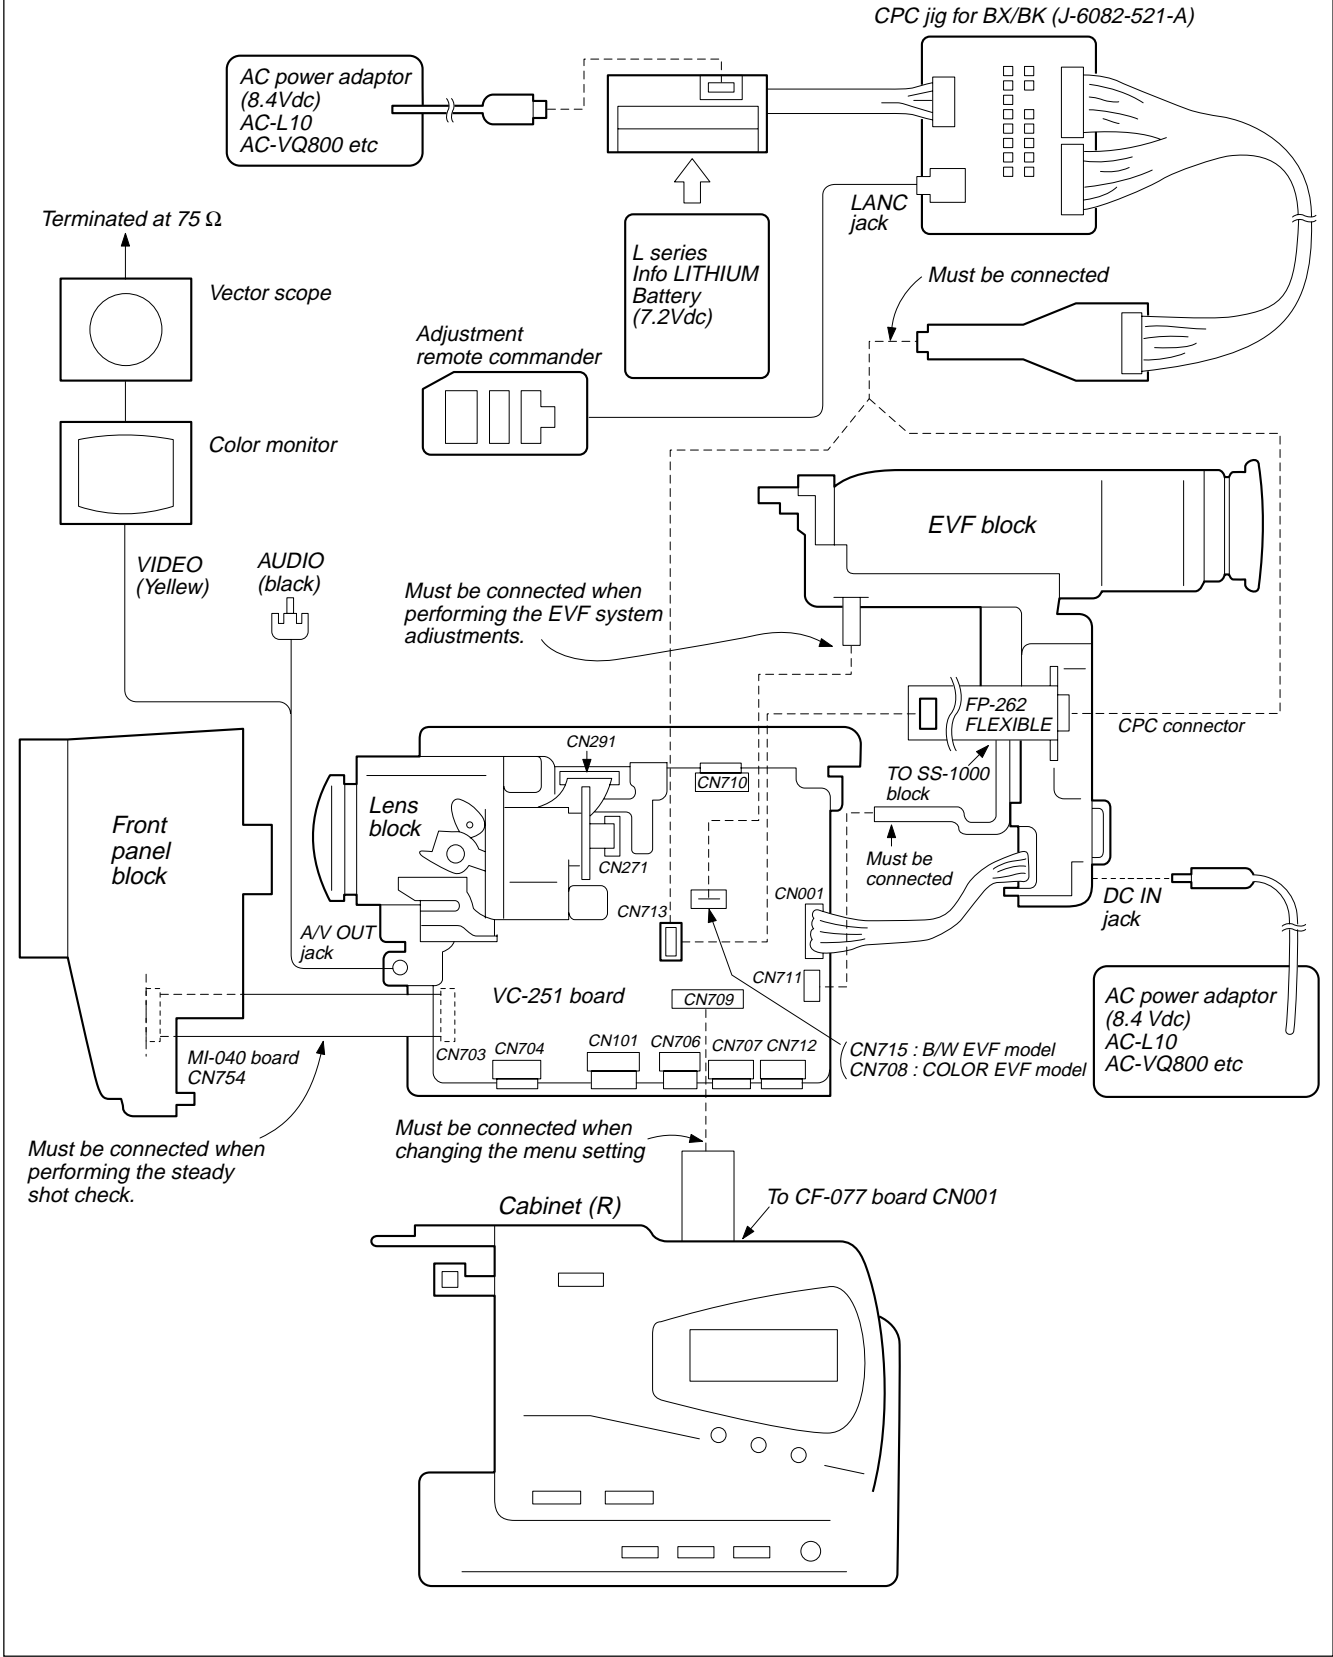

Fig. 5-1-4.
- 1) Connect the equipment for adjustments according to Fig. 5-1-4, 5-1-5.